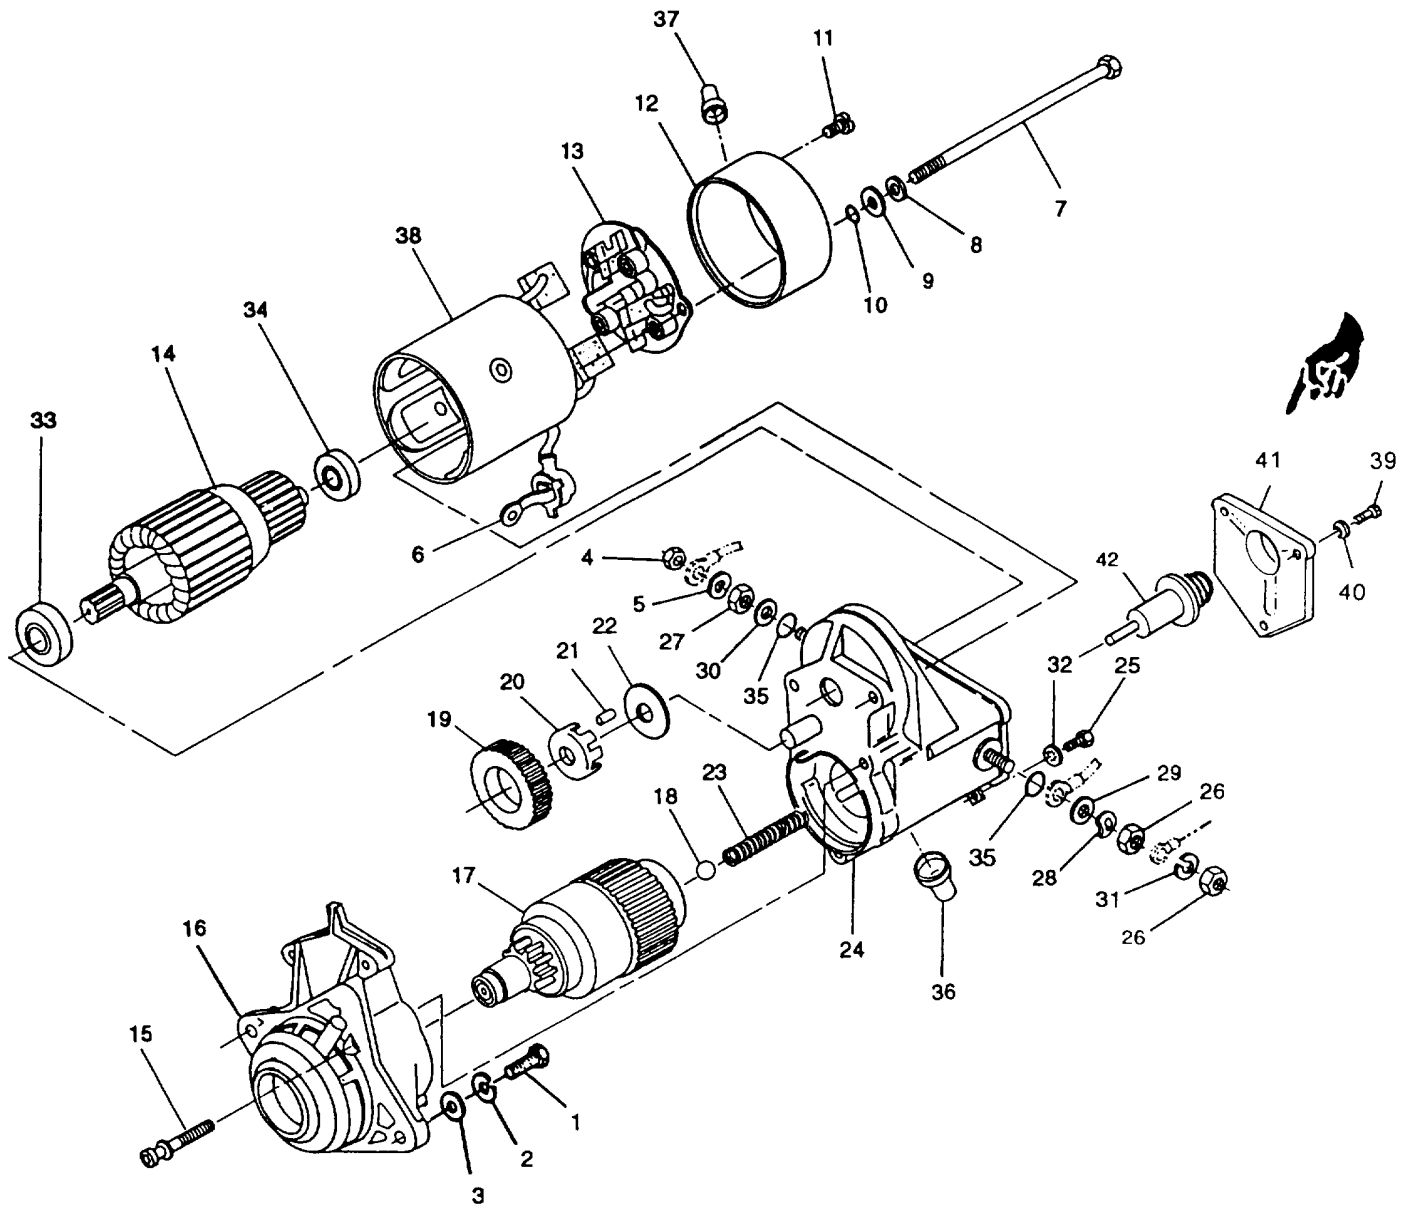

**FIGURE 3-14. Starter Bench Test Setup**
- e. Connect a 24 VDC source (A) to starter battery terminal (B) and starter frame (C) as shown. Use heavy duty cables, refer to FIGURE 3-14.
- f. Connect a remote start switch (D) between switch terminal (E) and battery terminal (B).